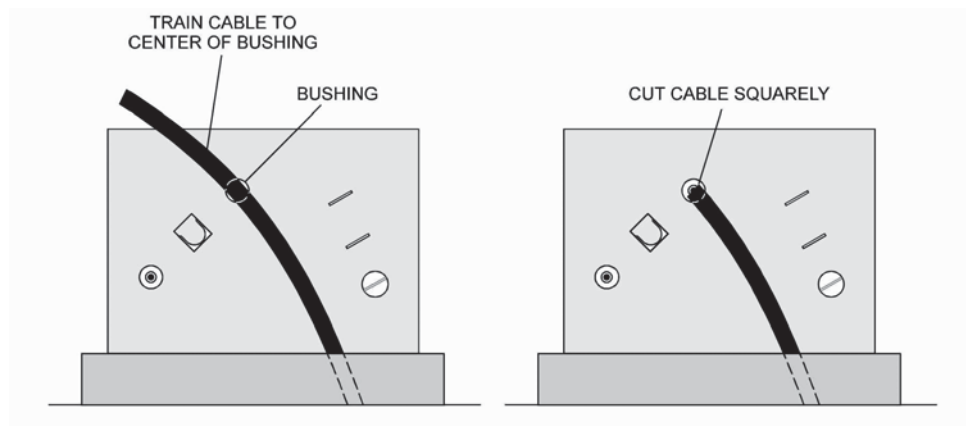

FIGURE 3
STEP 2: TRAIN CABLE TO THE CENTER OF THE TRANSFORMER BUSHING AS SHOWN IN **FIGURE 3**. THE CABLE MUST FORM A GRADUAL ARC FROM THE GROUND TO THE BUSHING IN ORDER TO PROVIDE ENOUGH CABLE TO REACH BOTH BUSHINGS AND THE STANDOFF BRACKET. THIS WILL ALLOW FOR FUTURE SWITCHING.